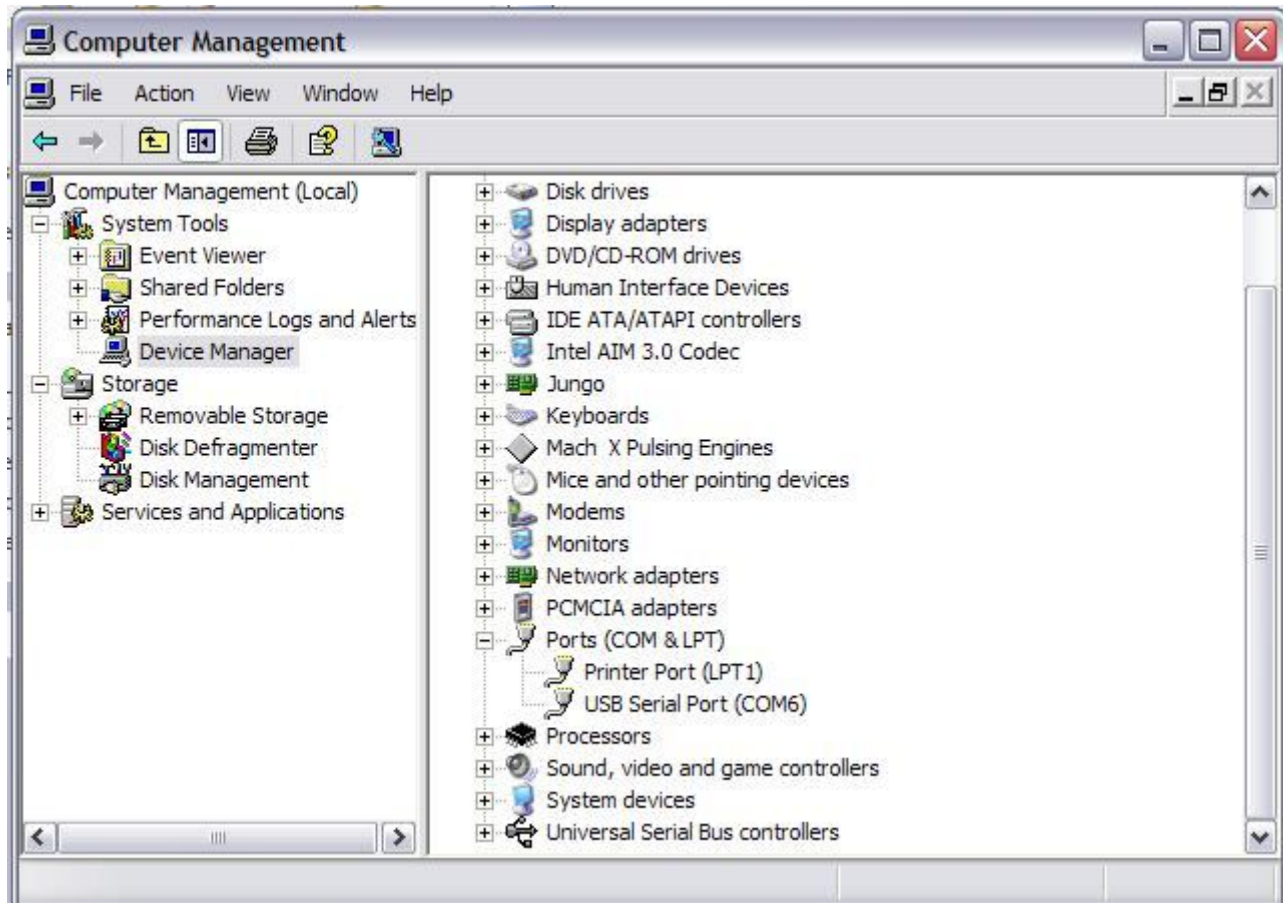

Figure 4.0
- Step 4: In the Device Manager menu, select *Ports(COM&LPT)*. The USB Serial Port(COM#) etc will appeared, where # indicates any single number. Remember this port number. (Note: In figure 4.0, the port number is COM6, however this number may be different on the user's computer)